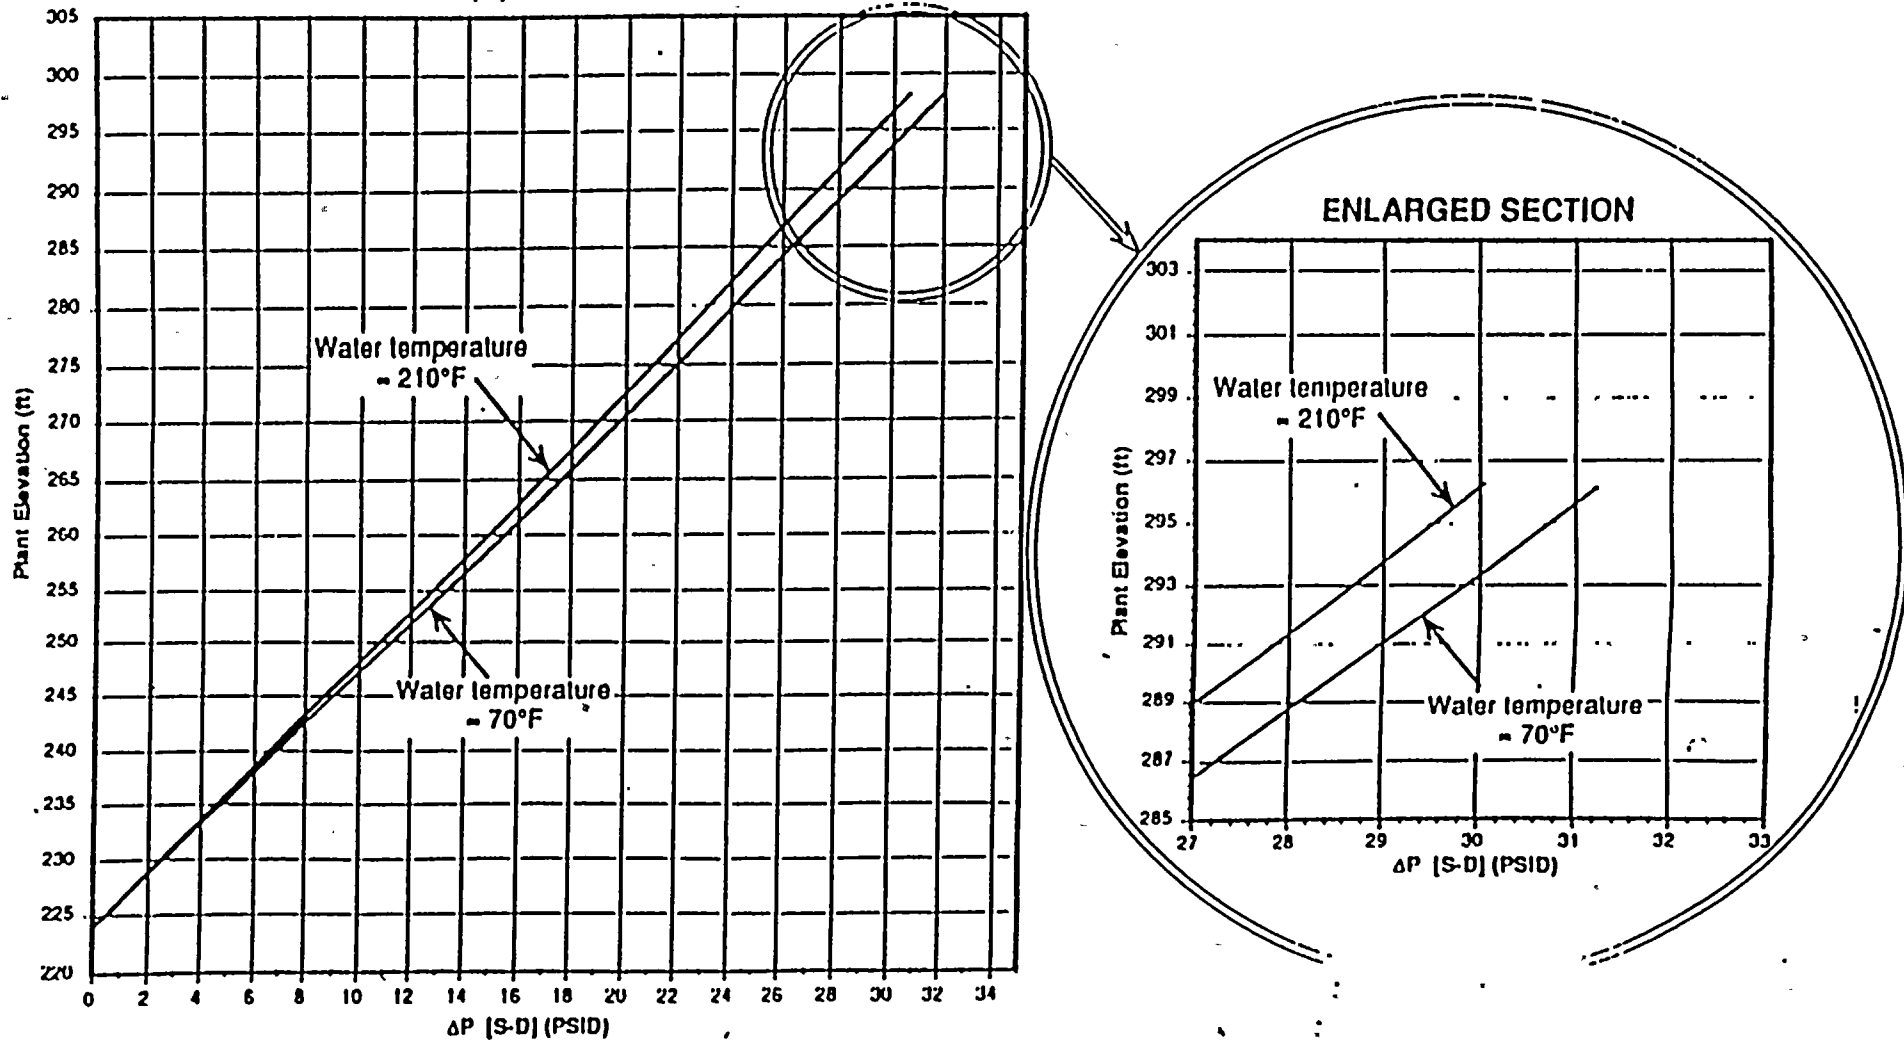

Figure 23.1
3.6 Using Figure 23.1, track primary containment water level as a function of  $\Delta P$  (S-D) . . . . . ( )
2. When injection temperatures are less than or equal to 70°F, water levels are referenced to the 70°F curve of Figure 23.1.
When injection temperatures are greater than 70°F, water levels are referenced to the 210°F curve of Figure 23.1.